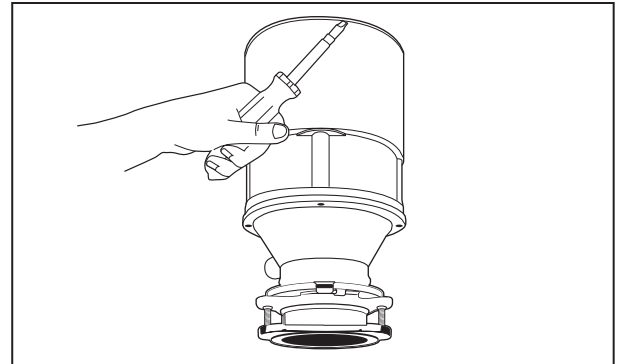

Figure 4.24
3. Place edge of flathead screwdriver between lower end frame and stator; tap end of screwdriver with rawhide mallet to separate lower end frame (see Figure 4.24).